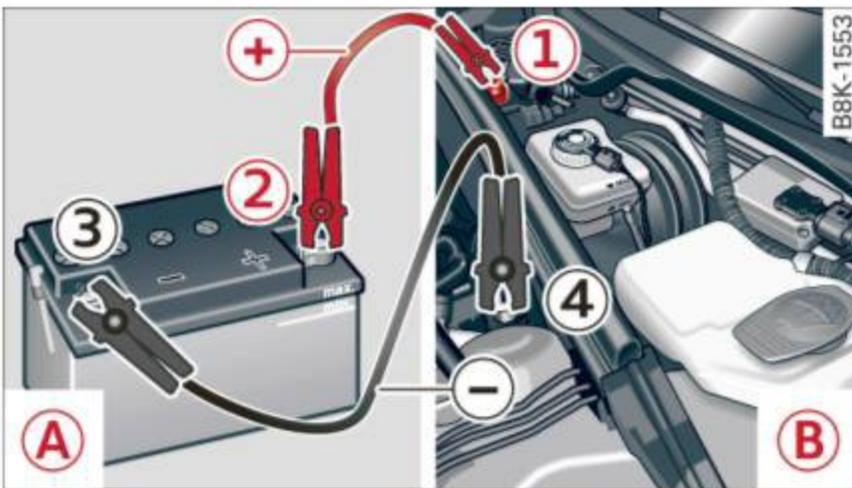

Fig. 187 Jump starting with the battery of another vehicle:
1. Connect one end of the red positive cable on the **jump start bolt** ⇒ fig. 187 (1) (Bolts under cover = “positive”) of the vehicle to be started (B).
2. Connect the other end to the positive terminal (2) of the booster battery (A).
- Please note that the procedure for connecting a jumper cable as described above applies specifically to the case of your vehicle being jump started. When you are giving a jump start to another vehicle, do *not* connect the negative (-) cable to the negative (-) terminal on the discharged battery  ⇒ fig. 187. Instead, securely connect the negative (-) cable to either a solid metal component that is firmly bolted to the engine block or to the engine block itself. If the battery that is being charged does not vent to the outside, escaping battery gas could ignite and explode!